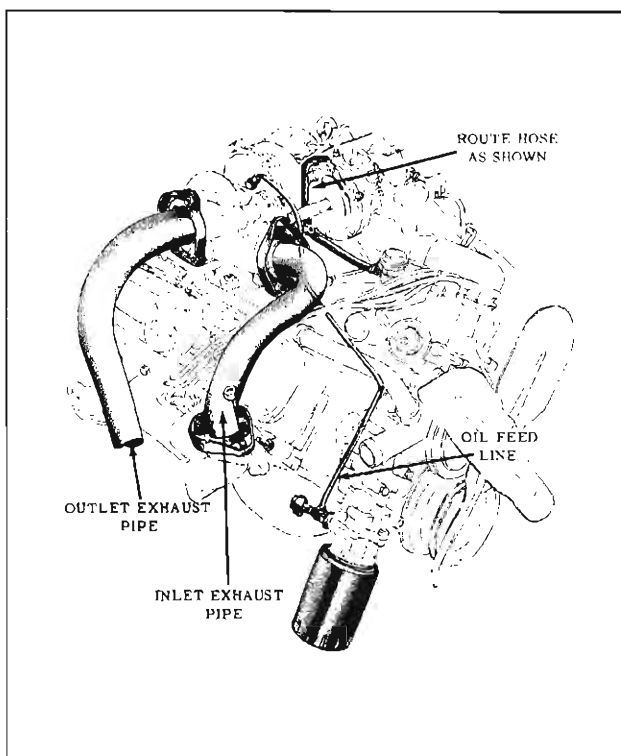

Fig. 8-161 Exhaust Pipe Connections
2. Remove turbo-charger exhaust inlet pipe by removing the four flange attaching nuts. (Fig. 8-161)